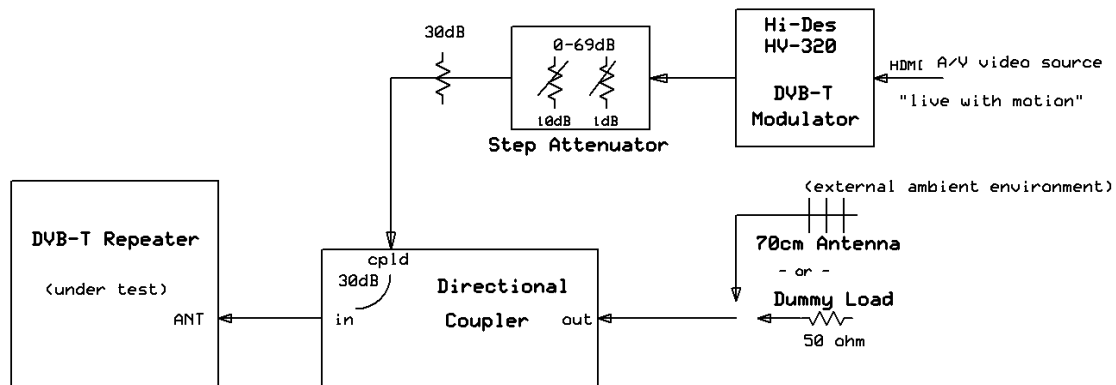

Fig. 8 Test Set for measuring the sensitivity of a DVB-T receiver
**Final Test of Sensitivity:** Fig. 8 below shows how to measure the sensitivity of a repeater's receiver both on the test bench and also in a real world environment. A directional coupler is used to inject a known DVB-T test signal into the antenna port of the repeater.